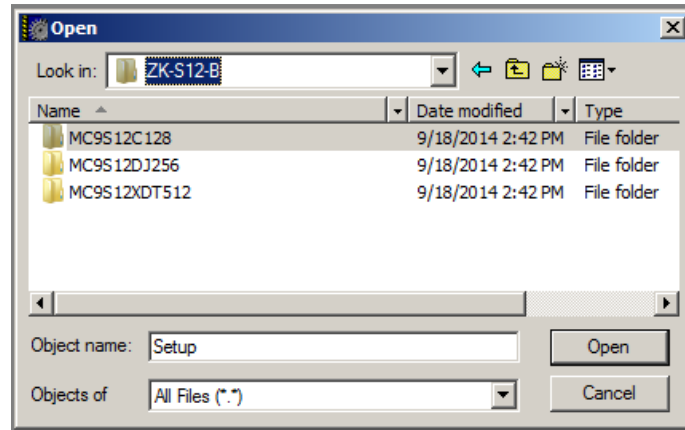

Figure 1.9 Open window, select ZK-S12-B board and the MCU
Open the CodeWarrior demo project Demo.mcp (*.mcp is the CodeWarrior project file) which should be located at the following path: c:\Program Files\SofTec Microsystems\SK and ZK-S12(X) Series\CodeWarrior Examples\ZK-S12-B\[<target MCU>]\Demo\Demo.mcp. Here the <target MCU> label stands for MC9S12C128, MC9S12DJ256 or MC9S12XDT512. Select the MCU that is installed on your board (Figure 1.9).